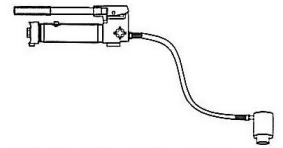

Figure 2 - Illustration to bleed air from system
1. Place pump at a higher elevation than the hose and cylinder as shown in figure 2.